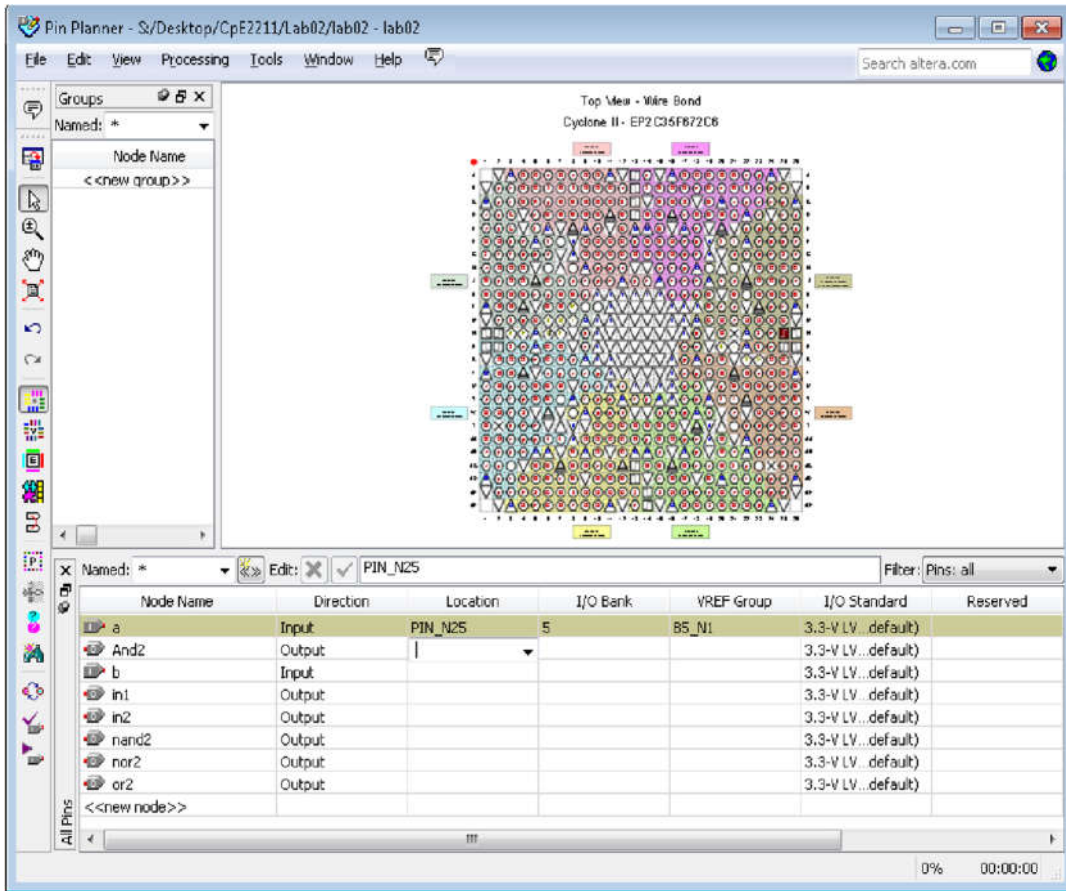

Figure 8: Pin Planner.
5. Click on **Assignments | Pin Planner** to get the following menu (Figure 8). Select the input/output variable and a corresponding pin address by referring to Tables A-1 and A-3 in Appendix A. The Switches on the board are typically used as inputs and the LEDs as outputs.